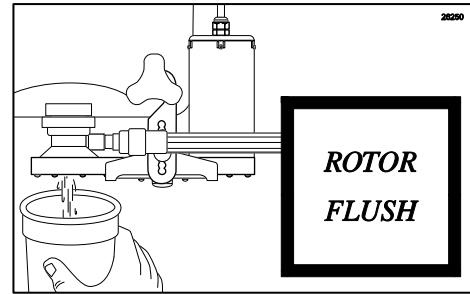

Figure 20
5. With a container under the dispensing spout, press the ROTOR FLUSH key on the Keypad to purge any remaining product from the Injector Head. (See Figure 20.)